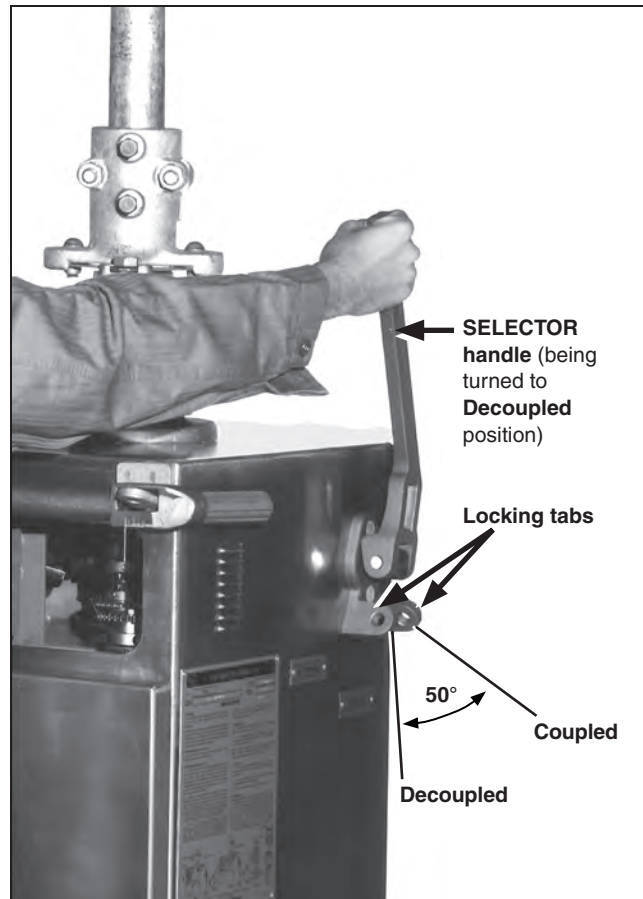

Figure 51. SELECTOR handle operation.
The integral external SELECTOR handle used to operate the built-in internal decoupling mechanism is located on the right-hand side of the switch operator enclosure. See Figure 51.
**STEP 1.** Swing the SELECTOR handle upright and slowly rotate it clockwise 50 degrees to the **Decoupled** position. See Figure 51.